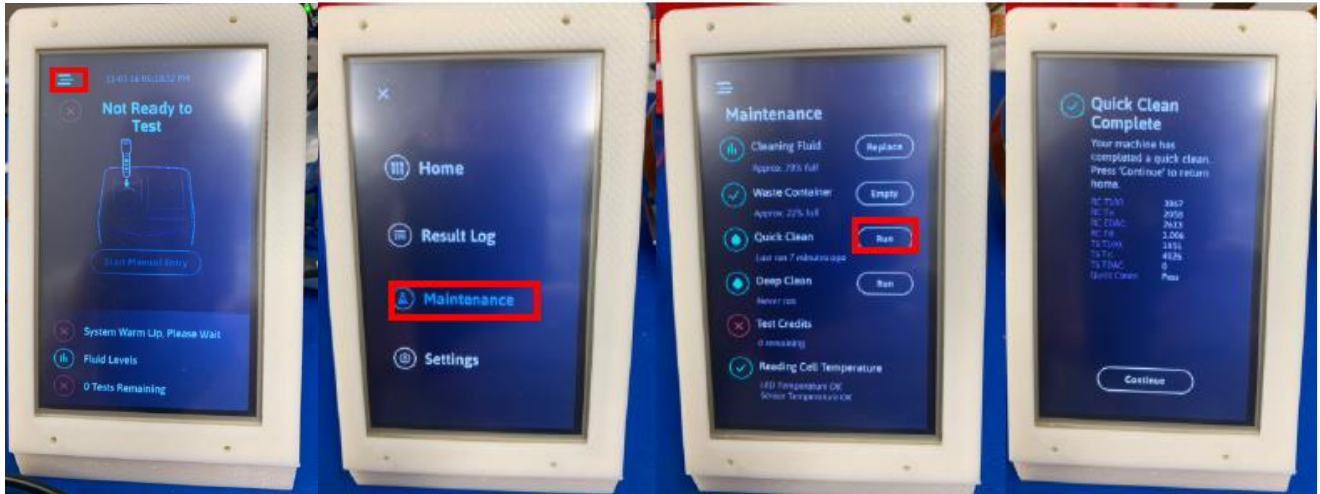

Figure 41
- 9.8. Perform 3 wash cycles by selecting Quick Clean “Run” button 3x and check for leaks. Figure 41.